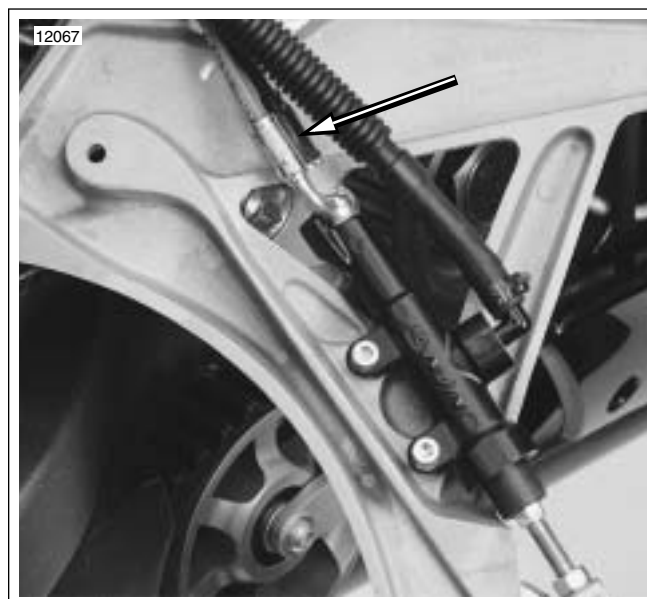

Figure 2-59. Rear Brake Light Switch/Banjo Bolt
8. See Figure 2-59. Remove brake line switch/banjo bolt from rear master cylinder. Discard copper washers.
2. See Figure 2-59. Install brake line switch/banjo bolt with **new** copper washers to the master cylinder. Tighten to 16-20 ft-lbs (22-27 Nm).